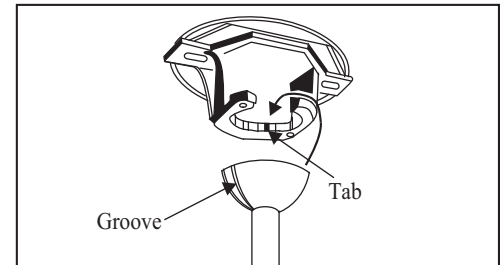

Figure 11
- Carefully lift the fan assembly up to the hanger bracket and seat the hanger ball in the hanger bracket socket. Make sure the tab on the hanger ball is properly seated in the groove in the hanger ball (Figure 11). This will help to balance the ceiling fan.
THE TAB IN THE RING MUST REST IN THE GROOVE OF THE HANGER BALL AS FIGURE 11. FAILURE TO PROPERLY SEAT THE TAB IN THE GROOVE COULD CAUSE DAMAGE TO WIRING.